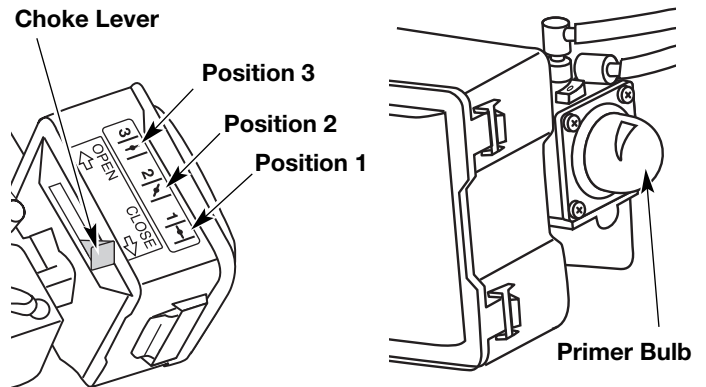

Fig. 11
4. Place the choke lever in Position 1 (Fig. 11).
5. Fully press and release the primer bulb 10 times, slowly. Some amount of **fuel should be visible in the primer bulb** and fuel lines (Fig. 11). If you can't see fuel in the bulb, press and release the bulb as many times as it takes before you can see fuel in it.